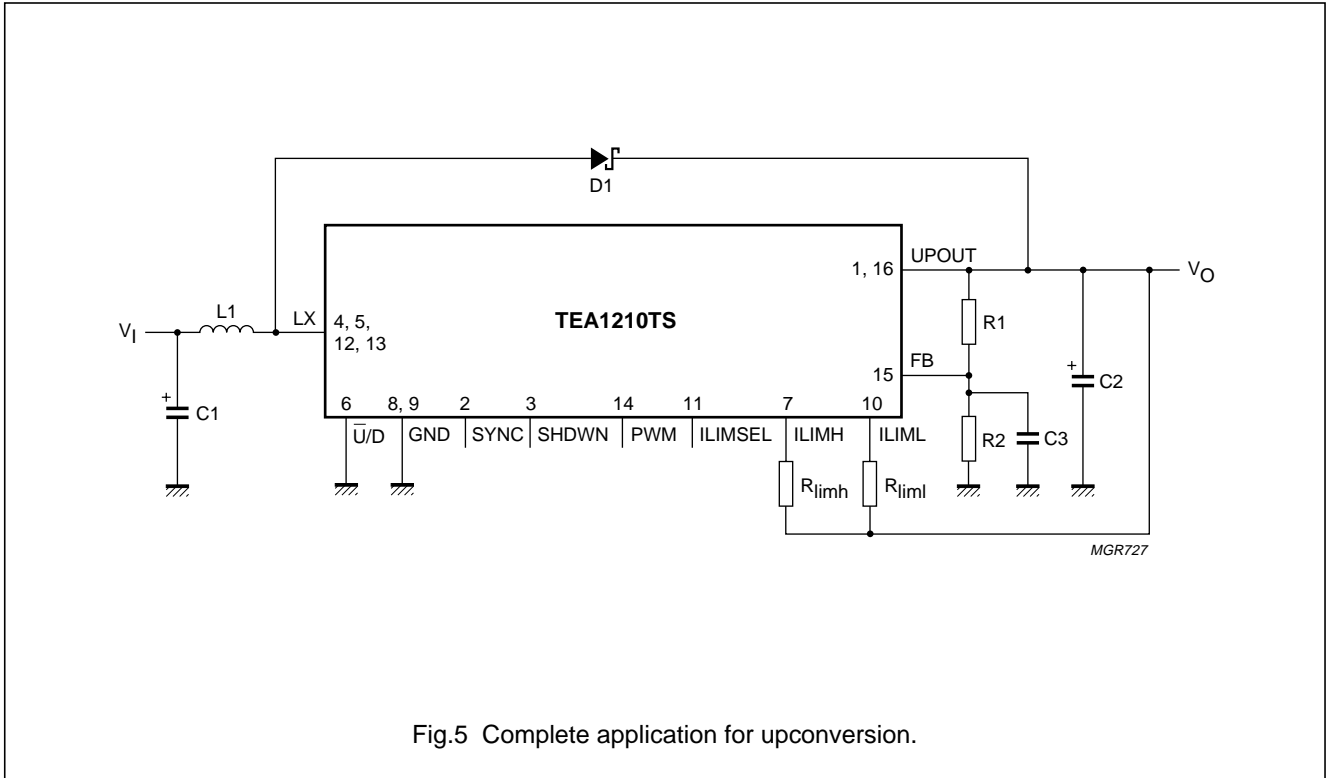

Fig.5 Complete application for upconversion.
- The quiescent current is specified as the input current in the upconversion configuration at $V_1 = 2.40$ V and $V_O = 3.60$ V, using $L1 = 6.8$ μ H, $R1 = 178$ k Ω and $R2 = 93.1$ k Ω (see Fig.5).